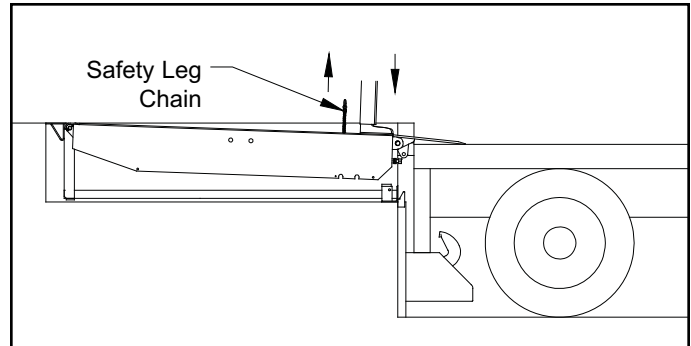

FIGURE 8 - END LOAD OPERATION (EQUIPPED WITH SAFETY LEGS)
- If equipped, pull and hold the safety leg release chain as the leveler lowers. See figure 8.